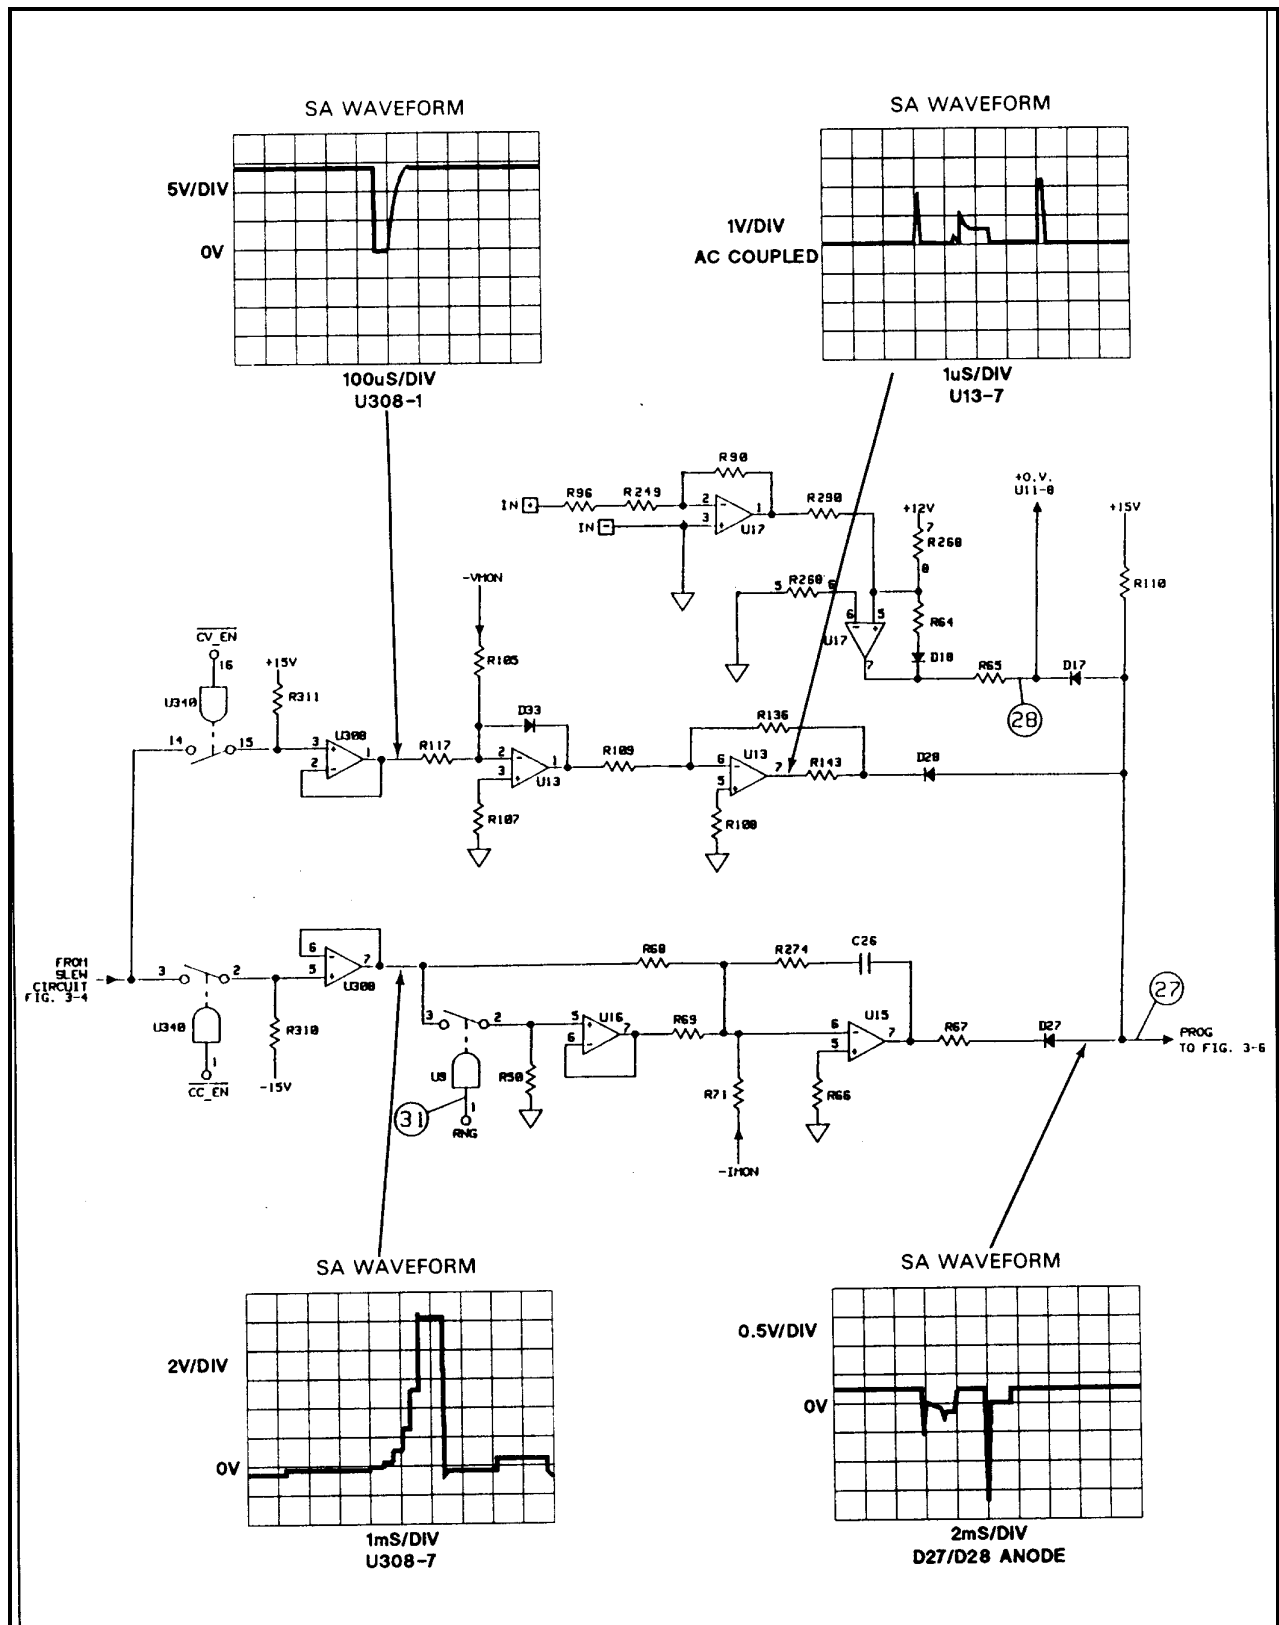

Figure 3-5. CC/CV Control Circuits Troubleshooting
CC/CV CONTROL CIRCUIT TROUBLESHOOTING (Figure 3-5)
The overvoltage (OV) circuit (U17, D17) is also shown on Figure 3-5. When an OV condition is detected, the OV circuit generates a negative signal on the PROG signal line via diode D17, which causes the input power stages to increase current flow to attempt to limit input voltage. R64 and D18 latch the OV circuit on. When activated, the OV circuit overrides the CC and CV control circuits.
To troubleshoot the CV or CC circuits, place the Electronic Load in the SA mode by connecting the jumpers in test headers TP201 and TP301 in the SA mode positions (see Figure 3-2). The waveforms shown in Figure 3-5 can only be generated when SA mode is on. If the waveforms are correct but a problem exists, troubleshoot the input power stages as described in the next section.